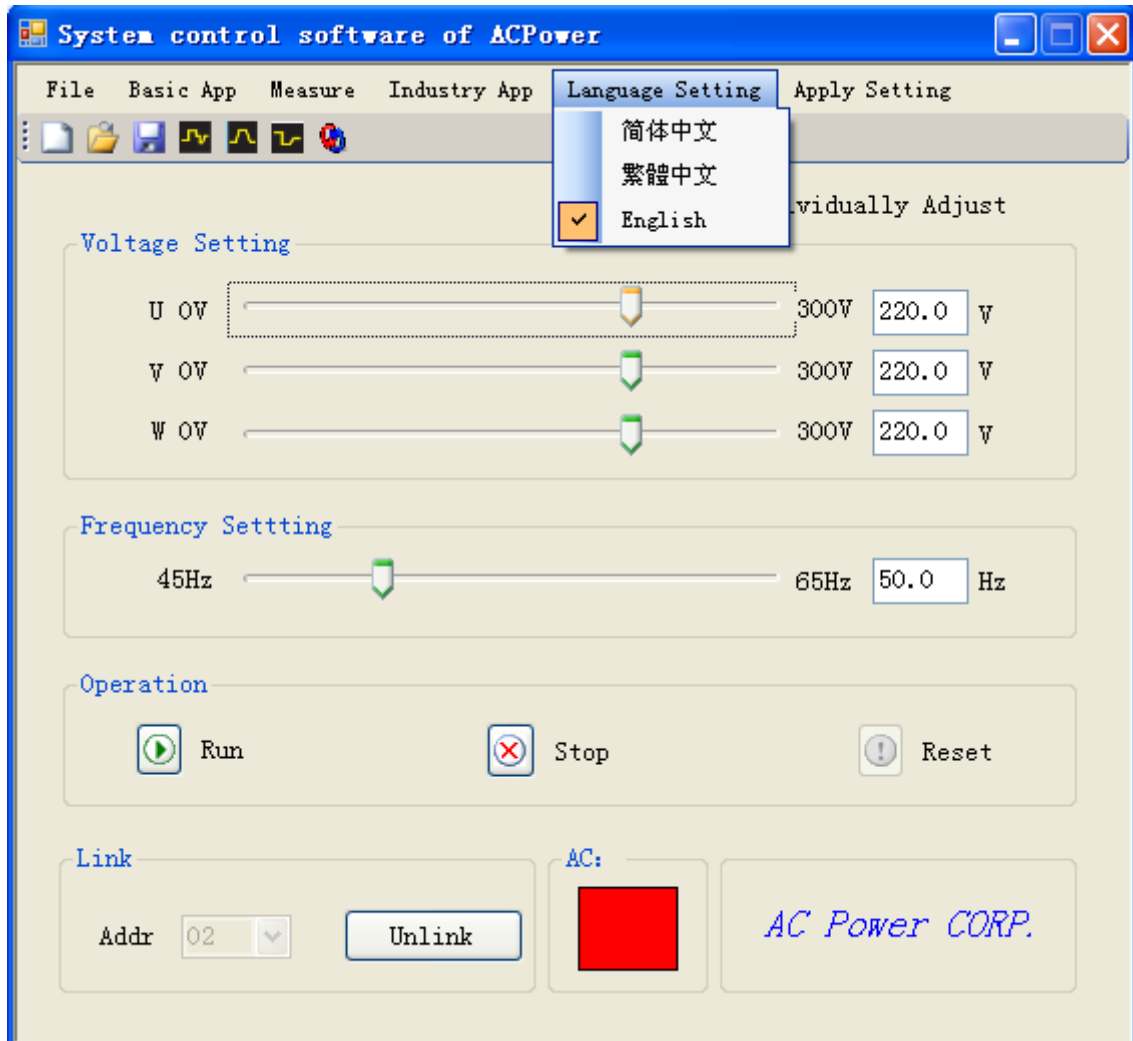

Fig. 5-15 Language selection under remote control
- (5) Click on the sub-menu of **【Language Setting】**, there are 3 kinds of languages can be chosen. Click on the language you want, and all the user-interface in this software will be changed to that language, as shown in fig. 5-15: